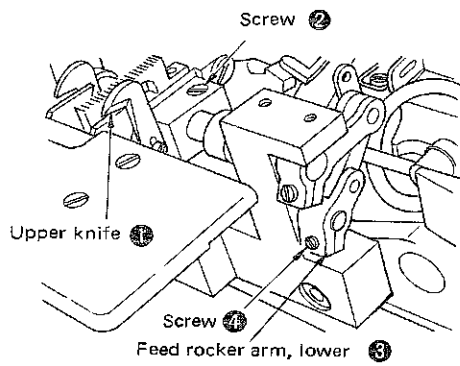

Fig. IV-4-1
Once the desired amount of movement of the upper knife ① has been obtained, tighten up the screw ④ in the lower feed rod. At this time, take care not to allow feed rocker arm, lower ⑤ to move to the left or right. (See Fig. IV-4-1)